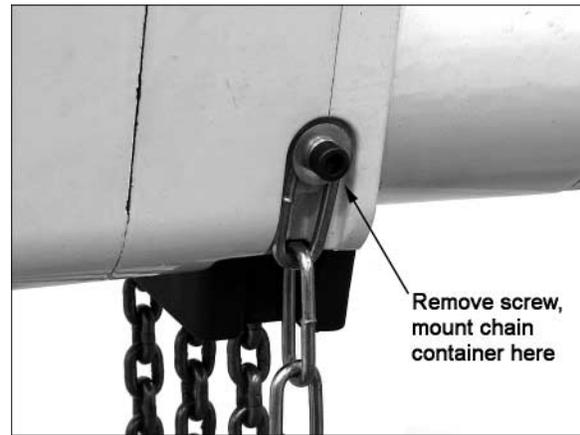
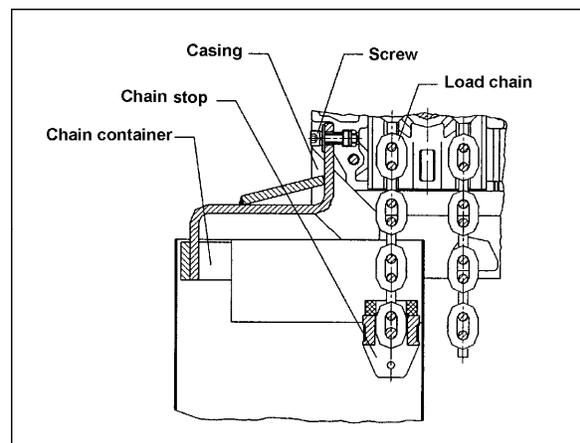

Figure 6
Figure 7
4. Remove the screw and washer holding the end chain to the hoist (Figure 6). Mount the bracket of the chain container in that location as shown in Figure 7.
5. Put the chain stop into the container (Figure 7), and operate the hoist to bring the load hook up until the upper limit switch is tripped.